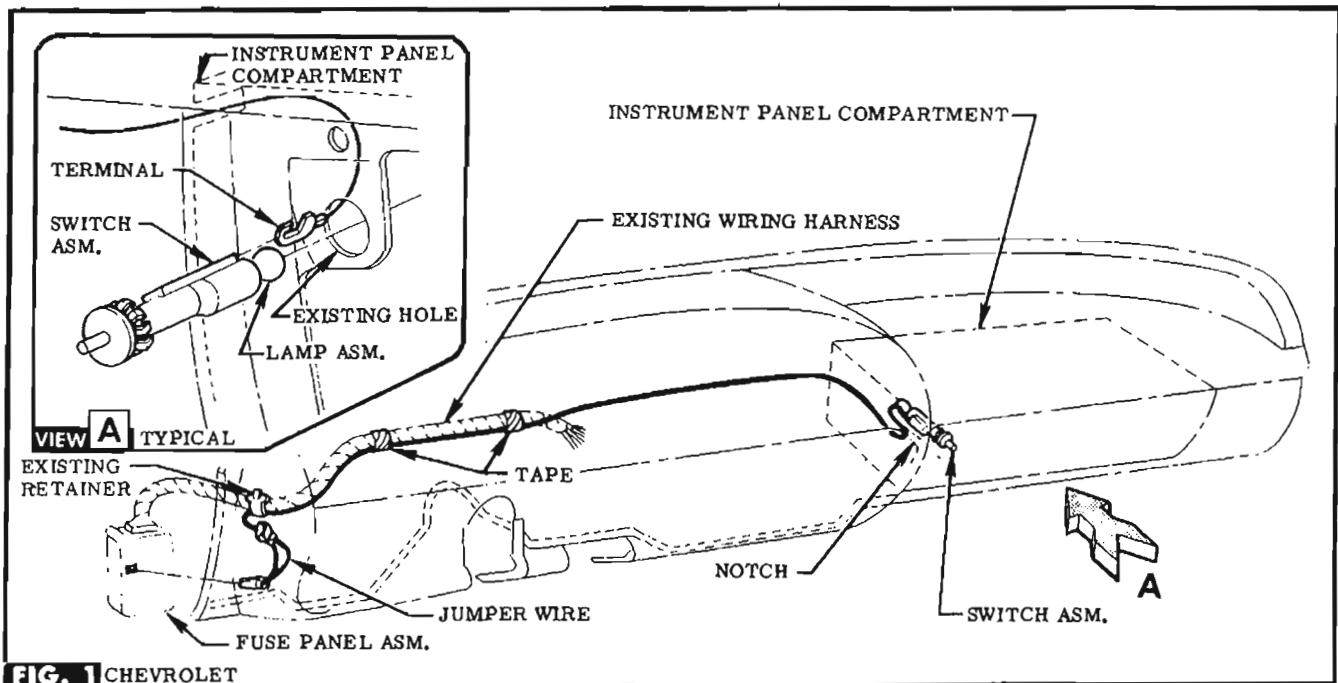

FIG. 1 CHEVROLET
STEP 1 ROUTE WIRE TERMINAL THRU NOTCH IN UPPER LEFT HAND CORNER OF INSTRUMENT PANEL COMPARTMENT & THRU HOLE IN UPPER LEFT SIDE OF COMPARTMENT OPENING. SEE FIG. 1 & 2.
STEP 3 (CHEVROLET) ROUTE WIRE ALONG EXISTING HARNESS & THRU EXISTING RETAINER TO FUSE PANEL. TAPE WIRE TO HARNESS AS SHOWN. SEE FIG. 1.
RECEPTACLE MARKED "BATT." SEE FIG. 1.